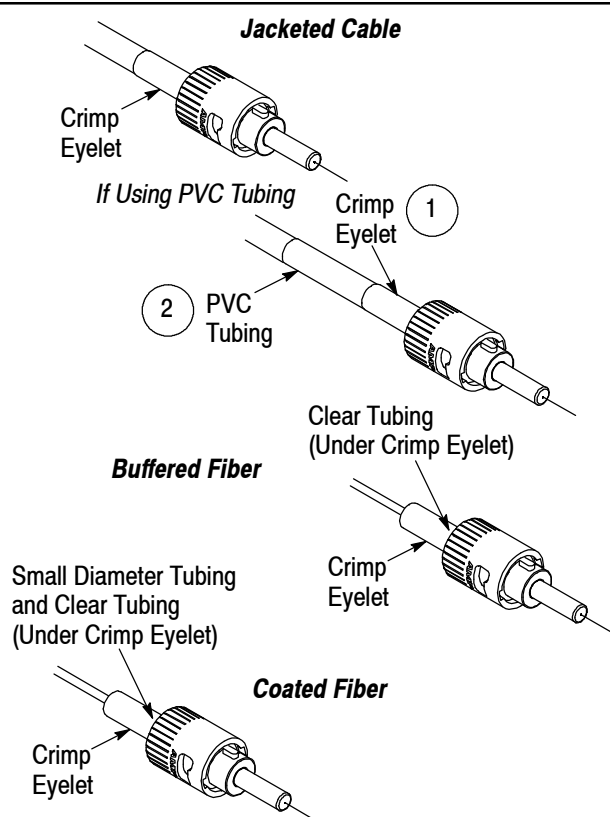

Figure 5
7. For jacketed cable, slide the crimp eyelet toward the connector until it contacts the connector shoulder, trapping the strength members against the knurled end. If using the PVC tubing, slide it under the crimp eyelet until it bottoms. See Figure 5.
For buffered fiber, slide the clear tubing against the back of the connector, then slide the crimp eyelet over the clear tubing and onto the connector. See Figure 5.
For coated fiber, slide the small diameter tubing and clear tubing against the back of the connector, then slide the crimp eyelet over the clear tubing and onto the connector. See Figure 5.